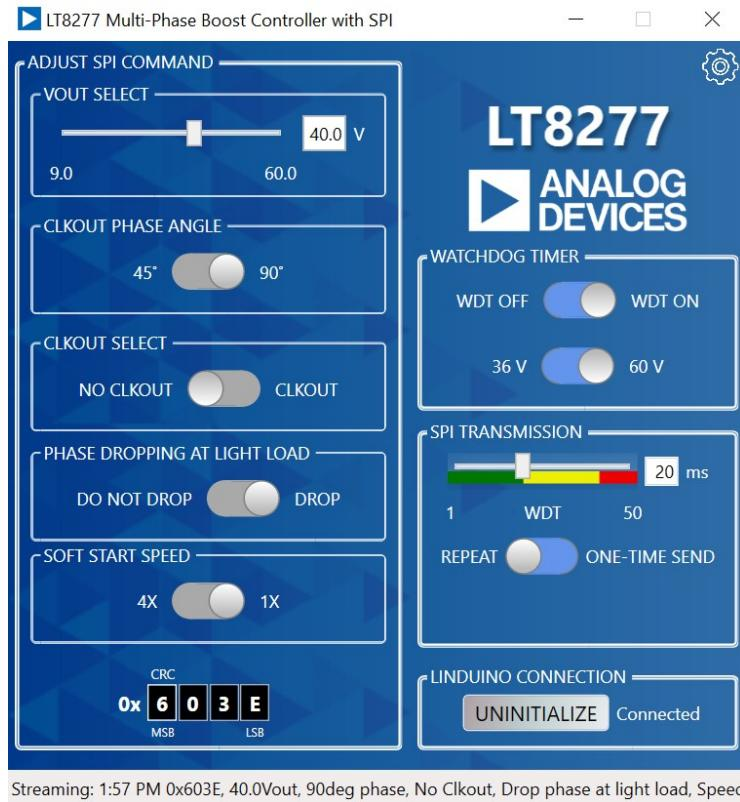

Figure 10. Repeat Sending Example
1. After GUI initialization and setup powered on, with EVAL-LT8277-AZ board JP3 set to "EXT\_CTRL", set GUI "Watchdog Timer" and "SPI Transmission" sections like figure 10, which turns on the WDT, and sends SPI command repeatedly with 20ms period. Select default WDT expires VOUT voltage 36V or 60V.
2. Use the "Adjust SPI Command" section to set the desired SPI command. In Figure 10, the VOUT select is adjusted to 40V.